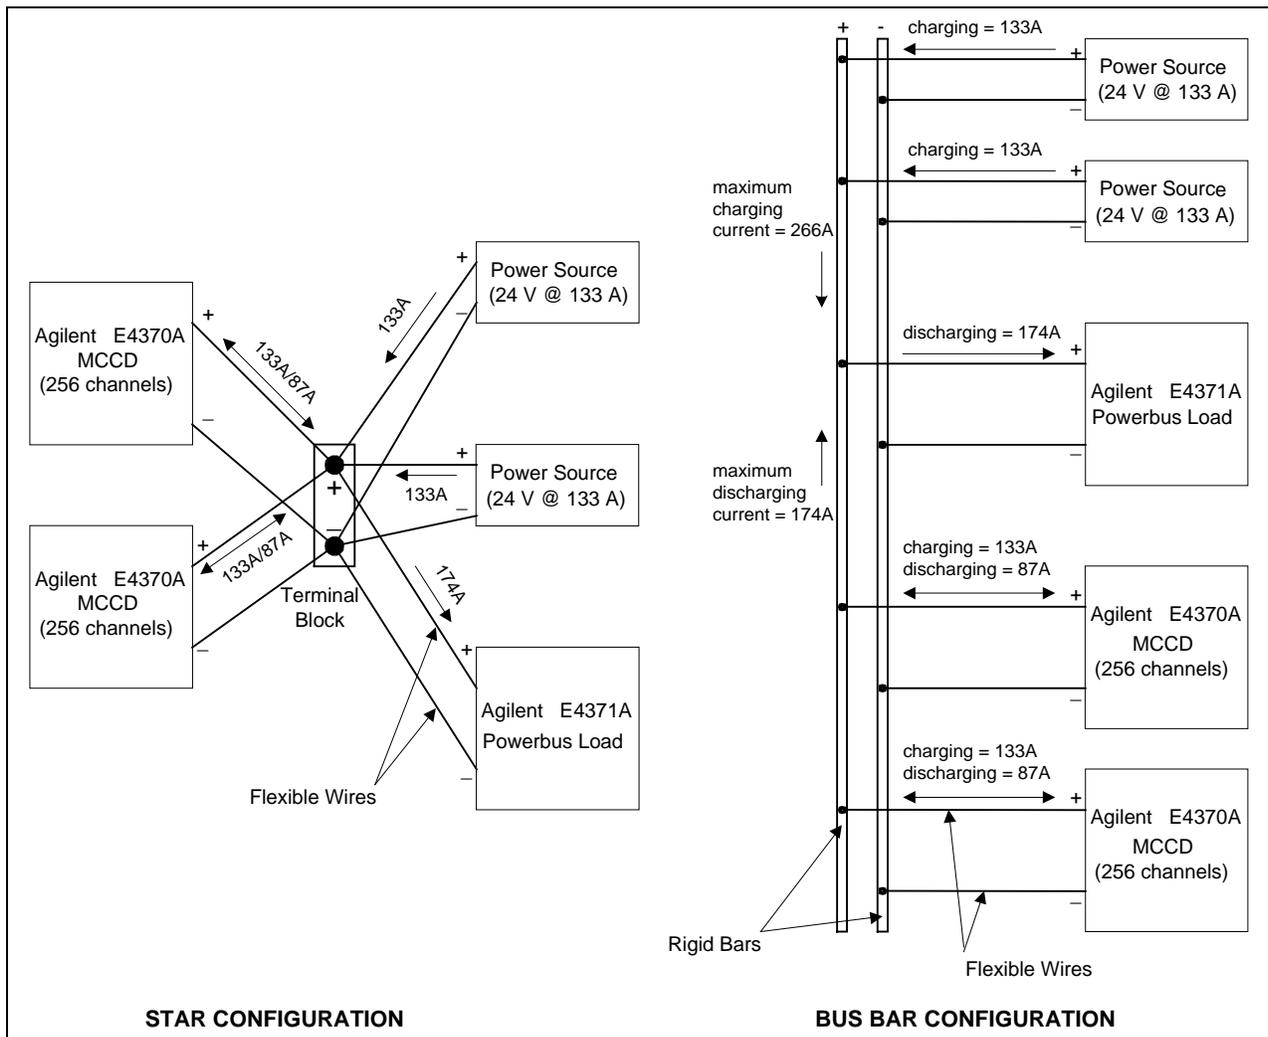

Figure 2-1. Typical Power Bus Configurations
Figure 2-1 illustrates two typical power bus configurations consisting of two Agilent E4370A MCCD mainframes connected to one Agilent E4371A Powerbus Load and two external dc power supplies. As shown in the figure, current requirements may vary widely based on the way the equipment is connected to the power bus.
2. Divide the input power requirements of the Agilent MCCD by the minimum voltage required at the input terminals of the Agilent MCCD. The result will be the maximum charging current required by the Agilent MCCD. (Double this current if you are simultaneously charging two Agilent MCCD mainframes as illustrated in Figure 2-1.)